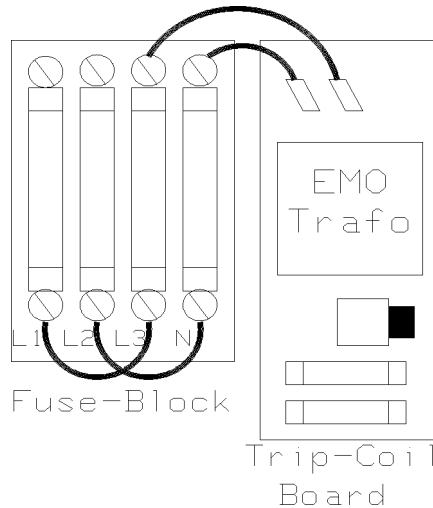

Figure 6-5. EMO Connections - Option 200/240
1. Connect the two EMO cables from the EMO transformer to the terminals on the fuse-block, as shown in Figure 6-5.
2. Connect jumper-cables (supplied) between terminals **L1** and **L3** and terminals **L2** and **N**, as shown in Figure 6-5.